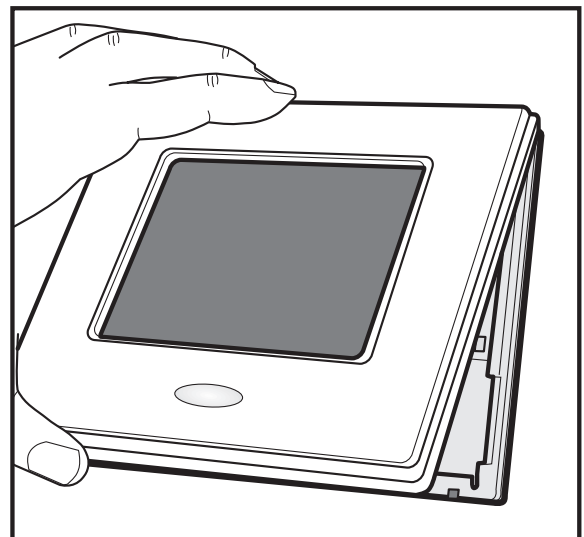

Fig. 6 — Display Module Installation
12. Reattach display module body to mounting base by first setting the module on at top of mounting base and then snapping the bottom corners of display module into place. See Fig. 6.